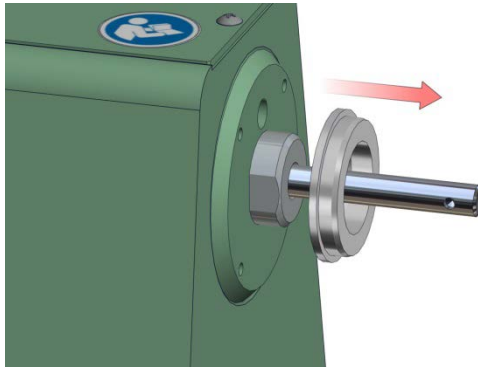

Figure 4.9.5
5. Slide the Mounting Ring (Item 7 Figure 7.4) off of the Spindle Guide and over the Spindle. See Figure 4.9.5 below.